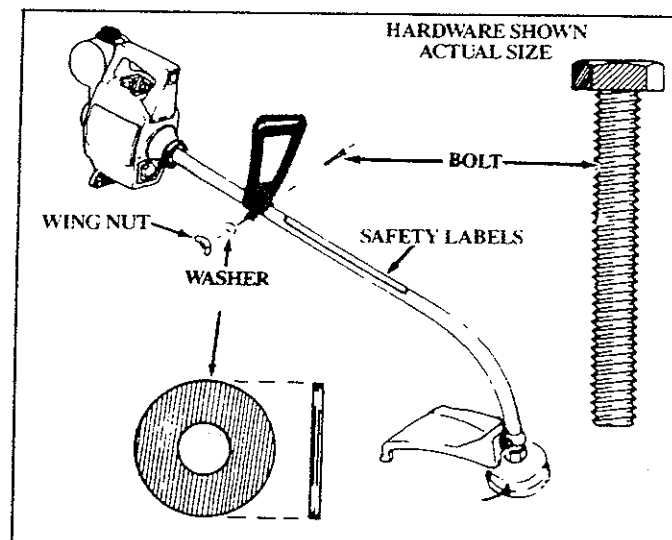

Figure 5
4. ASSIST HANDLE — Figure 5
- Hold the Assist Handle so it is leaning back toward the Engine and aligned between the Engine and the Safety Label. Figure 5.
- Firmly push the Assist Handle over the Drive Shaft Housing. Figure 5.
- Install the Washer and Wing Nut. Figure 5.